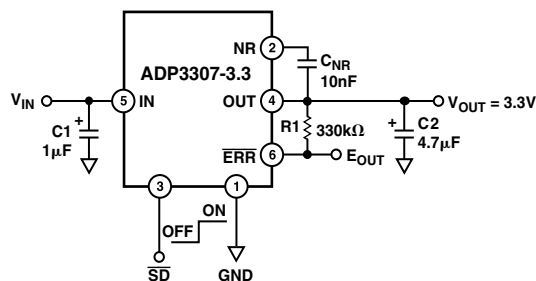

Figure 3. Noise Reduction Circuit
A noise reduction capacitor (C_{NR}) can be used to further reduce the noise by 6 dB–10 dB (Figure 3). Low leakage capacitors in 10 nF–100 nF range provide the best performance. As the noise reduction capacitor increases the high frequency loop-gain of the regulator, the circuit requires a larger output capacitor if it is used. The recommended value is 4.7 μF , as shown in Figure 3. Since the noise reduction pin (NR) is internally connected to a high impedance node, any connection to this node should be carefully done to avoid noise pick up from external sources. The pad connected to this pin should be as small as possible. Long PC board traces are not recommended.